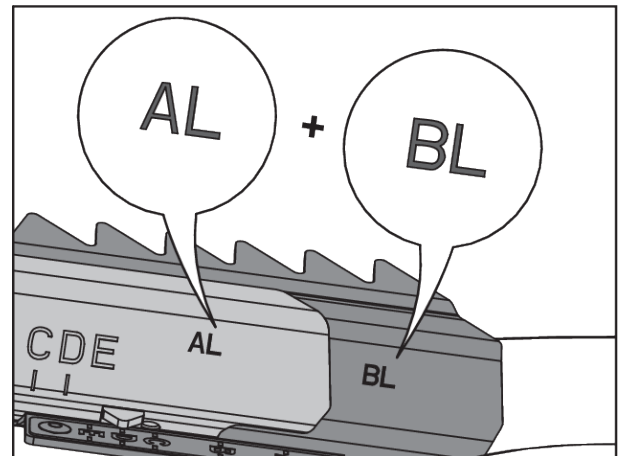

Fig. 79: Spreading vane combination
- See Fig. 79 Spreading vane combination